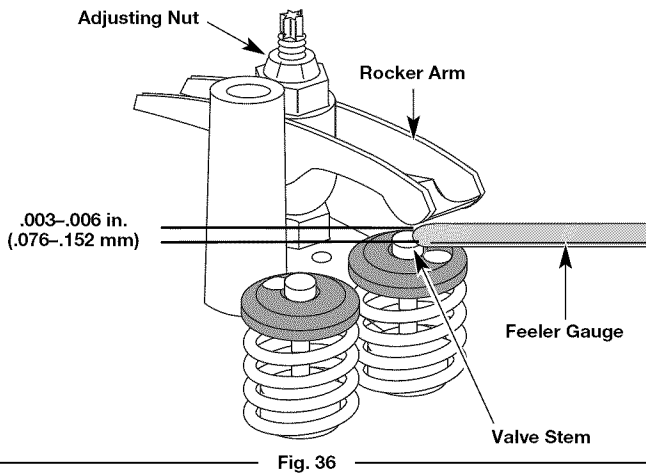

Fig. 36
- a. Turn the adjusting nut using a 5/16 inch (8 mm) wrench or nut driver (Fig. 36).